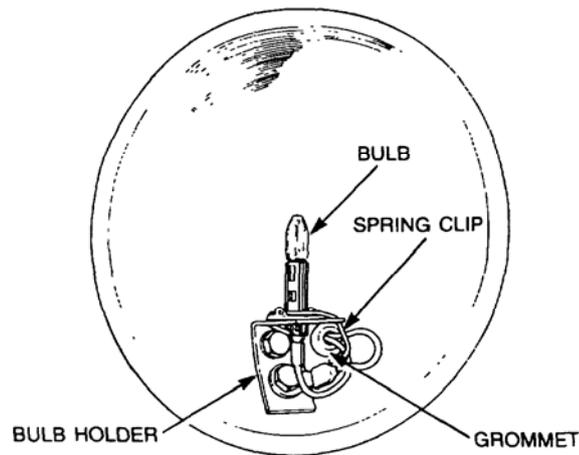

Figure 12 Scan Light Bulb Replacement
- e. Remove the spring clip retaining the bulb (refer Figure 12).
- g. Remove the screws securing the light unit base to the module (refer Figure 12).